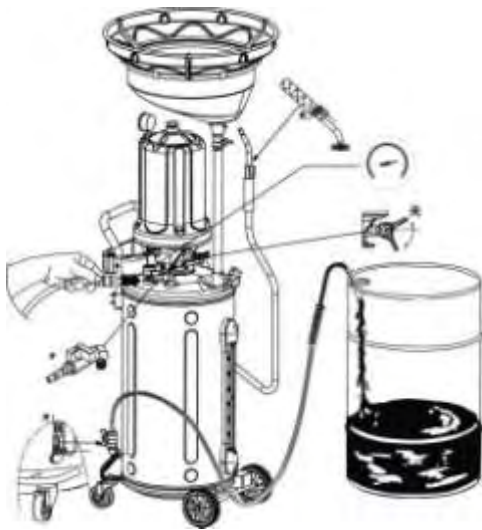

FIG. 9
- 2) turn off all valves for tank emptying. FIG.9